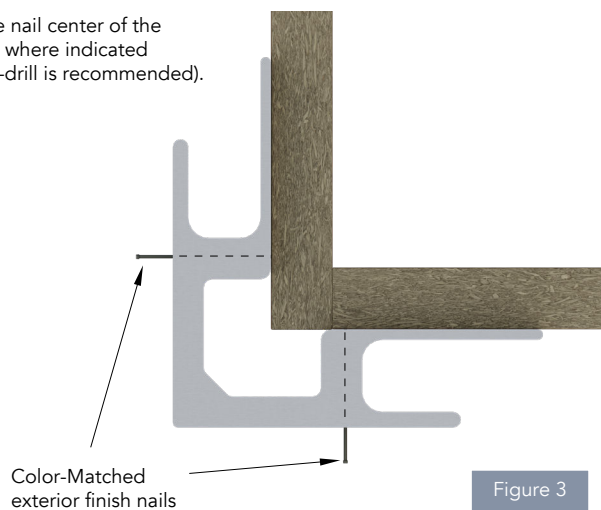

Figure 3
- Use 8d nails or 3" galvanized finishing nails. Space nails 8" to 12" apart. Counter sink nails ¼" below the surface of the outside corner post. Nails should penetrate the structural sheathing at least 1" (Figure 3). To conceal nail holes, use a sealant or epoxy. Cortex screws and plugs can also be used.